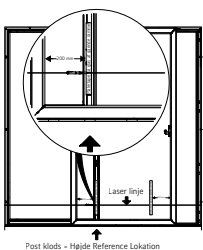

Figure 15: Laser position 1 – mark line on tape at laser height
- Slide the sash so the tape aligns with the mullion and mark the laser line on the tape on both sides (figures 15 + 16).